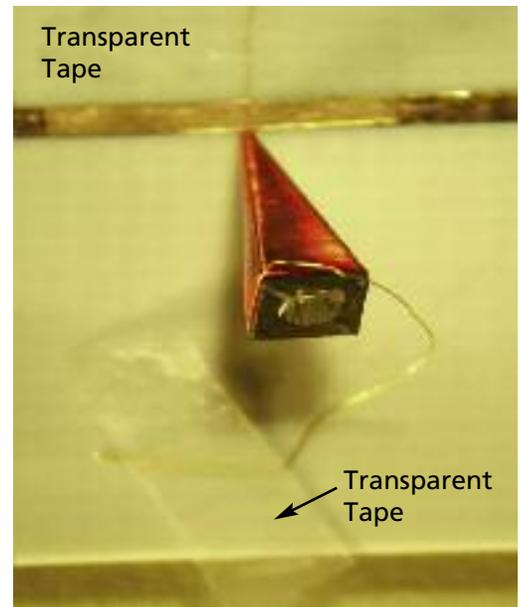

Figure 5: Positioning the coil with clear tape.
3. Position the coil's pointed end lead across the printed line at the scribed location of step 2. Temporarily secure this lead to the printed line and dielectric surface with transparent tape as shown in Figure 5. As the picture also shows, it might prove helpful in positioning the piece to secure the second lead to the top dielectric surface as well.